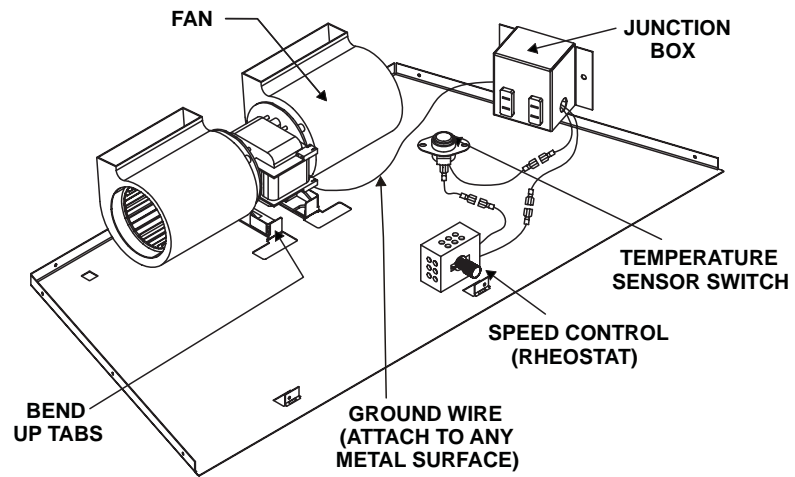

Figure 10.5 Fan Wiring Diagram
- Remove the old fan. See Figure 10.5.